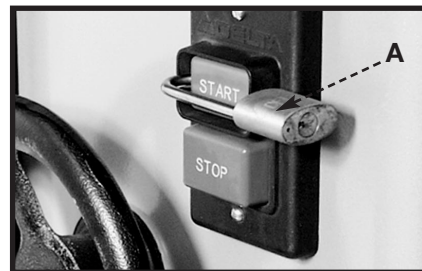

Fig. 17
**IMPORTANT:** When the machine is not in use, the switch should be locked in the "OFF" position using a padlock (A) Fig. 17, (Delta Cat. No. 50-325), with a 3/16" diameter shackle to prevent unauthorized use.